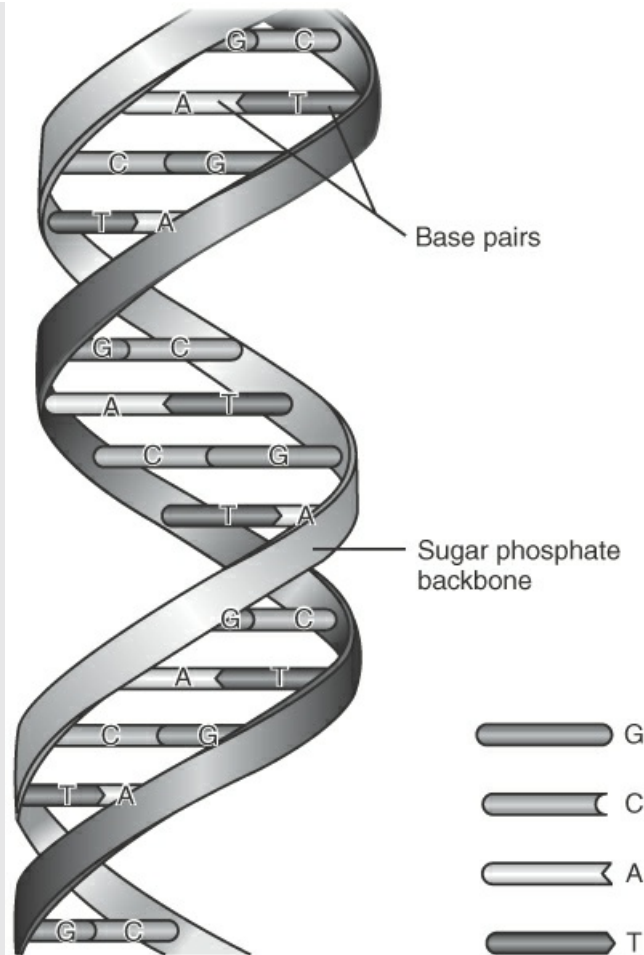

Figure E2.12 A three-dimensional representation of an arbitrary slice of an enormously long strand of DNA
Nearly all living things contain DNA (which stands for deoxyribonucleic acid), namely, the molecule that stores **genetic information**. DNA consists of a series of nucleotides. Each nucleotide is denoted by the base it contains: adenine (A), cytosine (C), guanine (G), or thymine (T). The most famous form of DNA in a cell is composed of two very long backbones of sugar (S) phosphate (P) molecules forming two intertwined chains called a double helix that are tied together by base pairs, as shown in Figure E2.12. DNA can also take other forms not shown here.